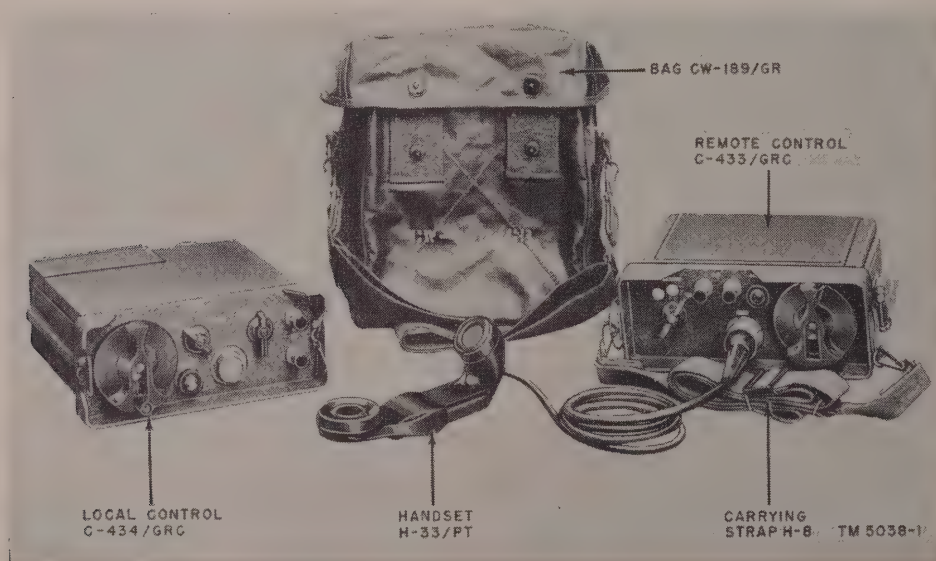

Figure 10. Control Group AN/GRA-6.
16. Control Group AN/GRA-6 (fig. 10)